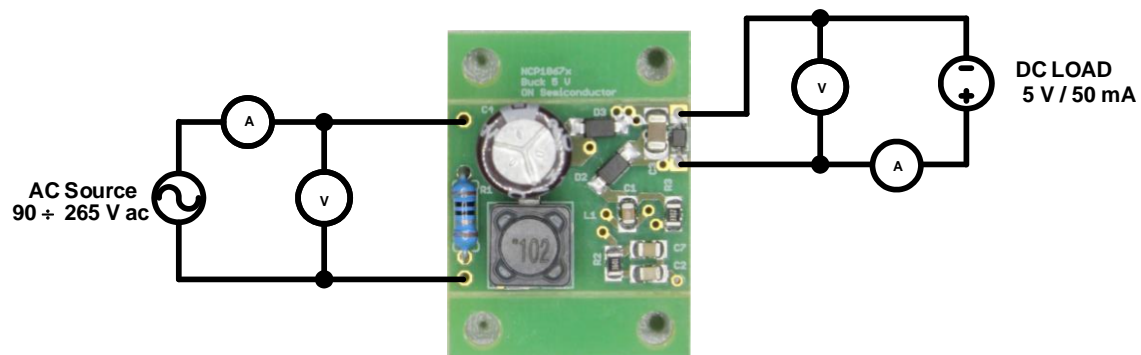

Figure 1: Test Setup for 5 V Buck Converter
1. **Connect the test setup as shown in Figure 1.**